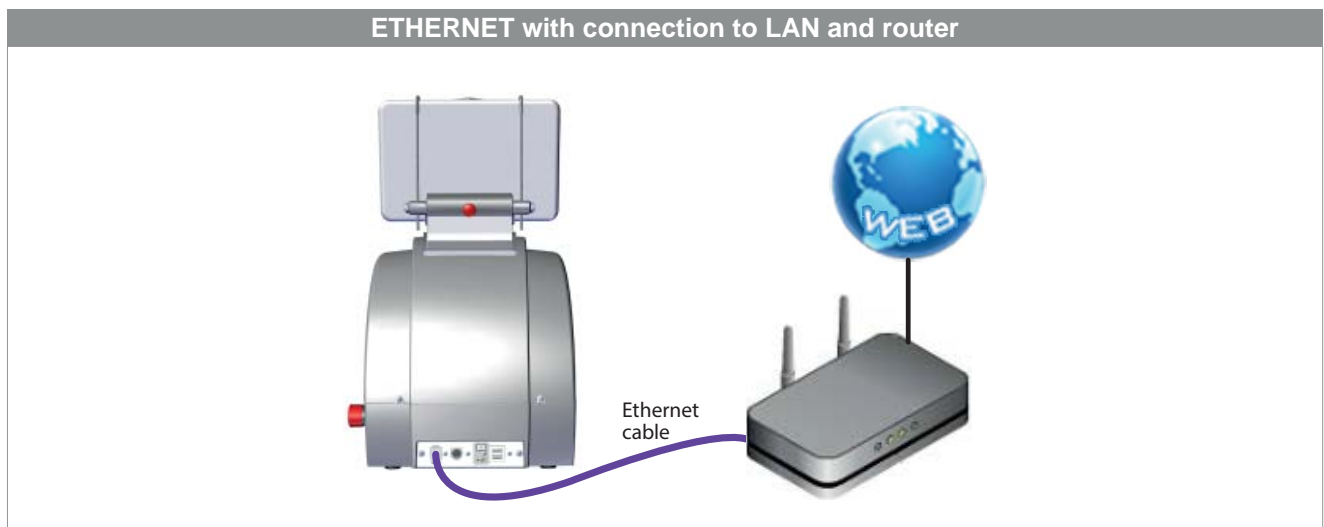

Fig. 10
- Connect your LAN ethernet cable to the machine (Fig. 10).